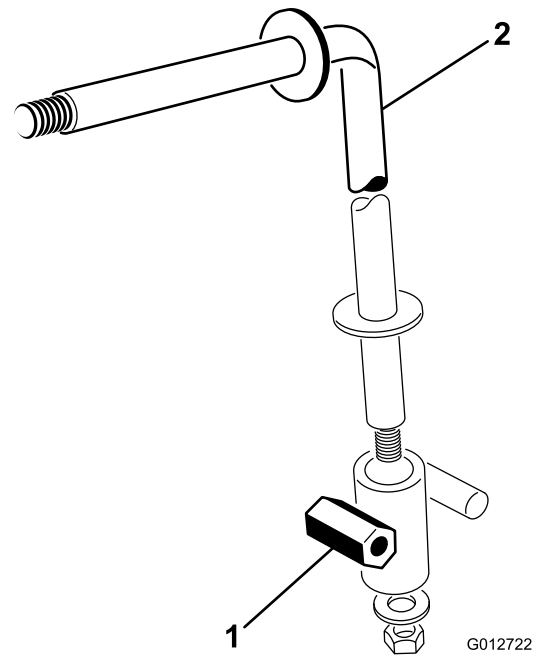

Figure 8
- Secure the lift bail housing to the lift bail with a thrust washer and locknut (3/4 inch). Position the lift bail as shown in Figure 8.